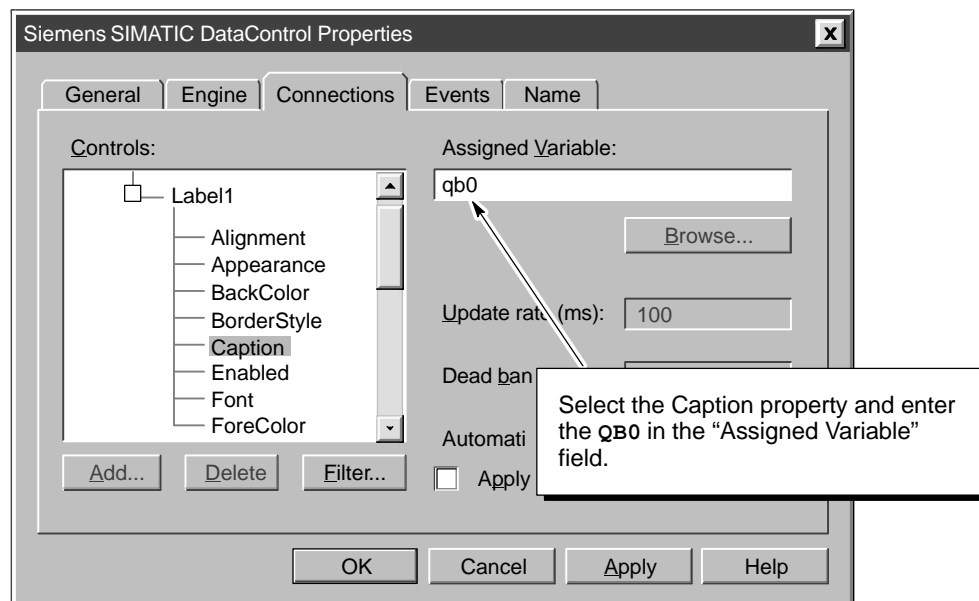

Figure 1-13 Assigning a Variable to the Caption Property of a VB Label Control
8. Select the Caption property and enter **QB0** in the "Assigned Variable" field. See Figure 1-13. Click on the "Apply" and "OK" buttons to enter the data and close the "Properties" dialog box.